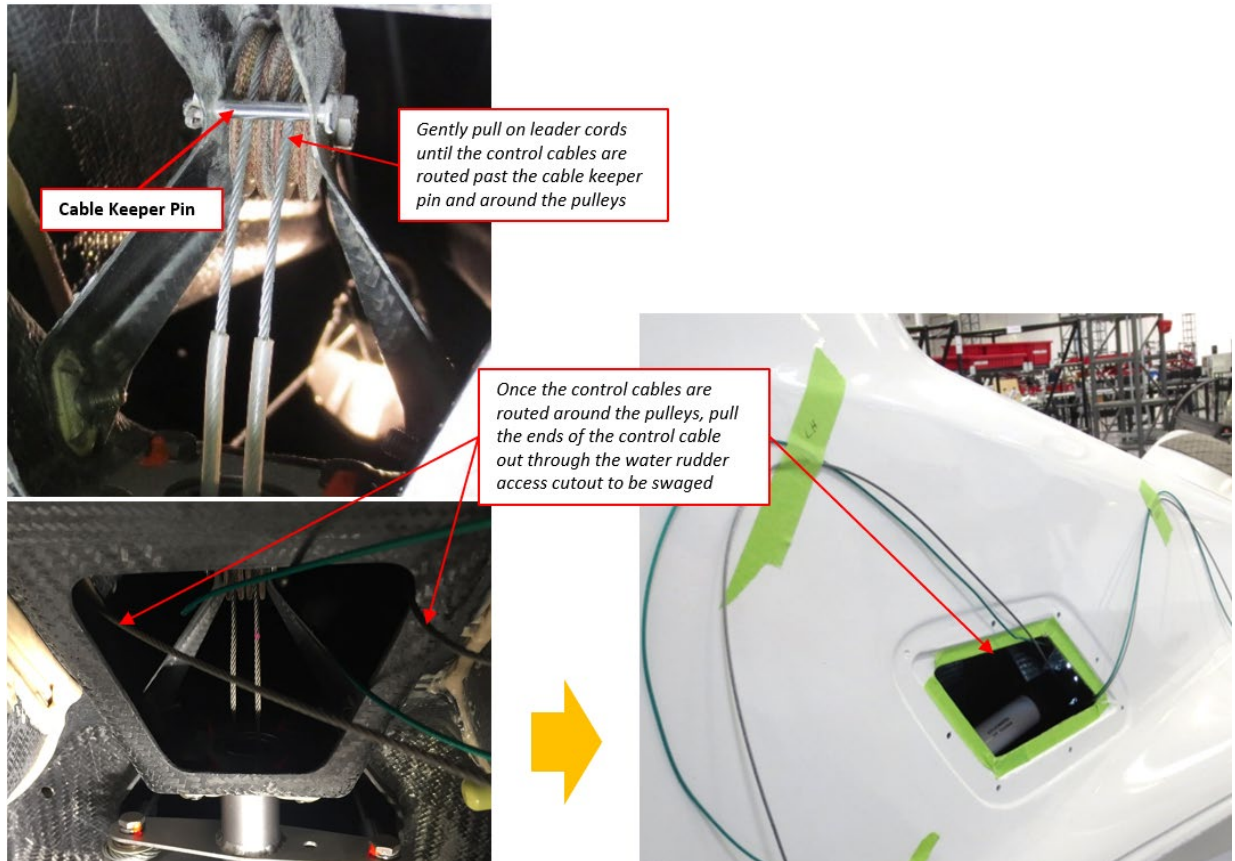

Figure 10. Route Cables
- n. Gently pull on the forward ends of the leader cords to pull the control cables up through the water rudder bellcrank, under the cable keeper pin, and around the pulleys located directly above the water rudder bellcrank. Once the control cables are routed up and through the pulleys, pull the ends of the control cable out through the water rudder access cutout to be swaged. **(Figure 10)**